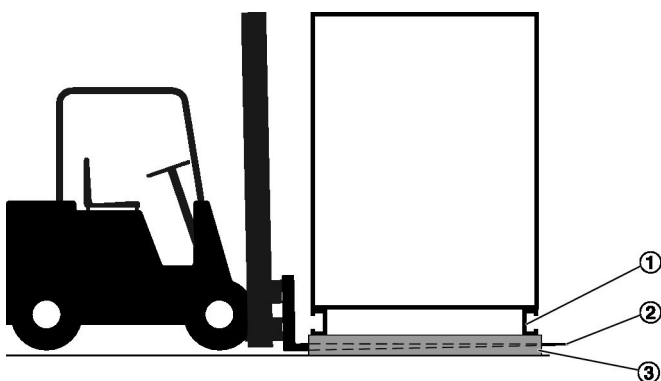

Fig. 5: Carrying load with a forklift
1. ▶ Drive the forklift forward until the forks ( Fig. 5 /3) are fully between the square edge timber sections ( Fig. 5 /2) and protrude from underneath the base frame ( Fig. 5 /1) on the opposite side.